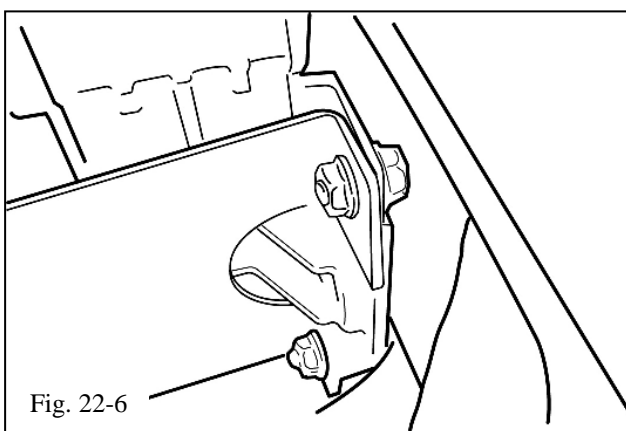

Fig. 22-6
- (i) Unbolt the upper RH corner of the radiator so that corner can be pulled back slightly to make it easier to mount the intercooler reservoir mounting bracket (Item A1) with 2 M6 x 12 mm bolts (Item A13) and nuts (Item A12) (Fig. 22-6).